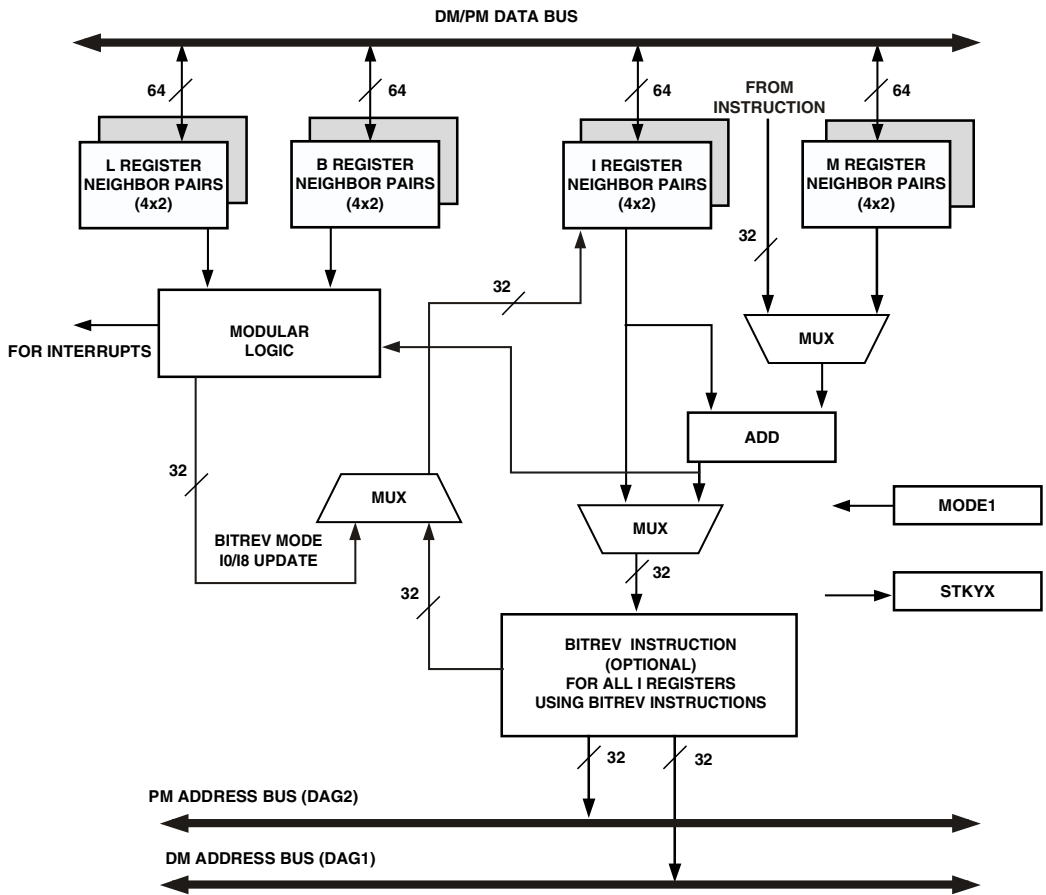

Figure 6-1. Data Address Generator (DAG) Block Diagram
The processor's data address generators (DAGs) generate addresses for data moves to and from data memory (DM) and program memory (PM). By generating addresses, the DAGs let programs refer to addresses indirectly, using a DAG register instead of an absolute address. The DAG's architecture, which appears in Figure 6-1, supports several functions that minimize overhead in data access routines.
As shown in Figure 6-1, each DAG has four types of registers. These registers hold the values that the DAG uses for generating addresses. The four types of registers are:
The processor's DAGs perform several types of operations to generate data addresses. As shown in Figure 6-1 on page 6-3, the DAG registers and the `MODE1` and `MODE2` registers contribute to DAG operations. The `STKYx` registers may be affected by the DAG operations and are used to check the status of a DAG operation.
An important item to note from Figure 6-1 is that the DAG automatically adjusts the output address per the word size of the address location (short word, normal word, or long word). This address adjustment lets internal memory use the address directly.